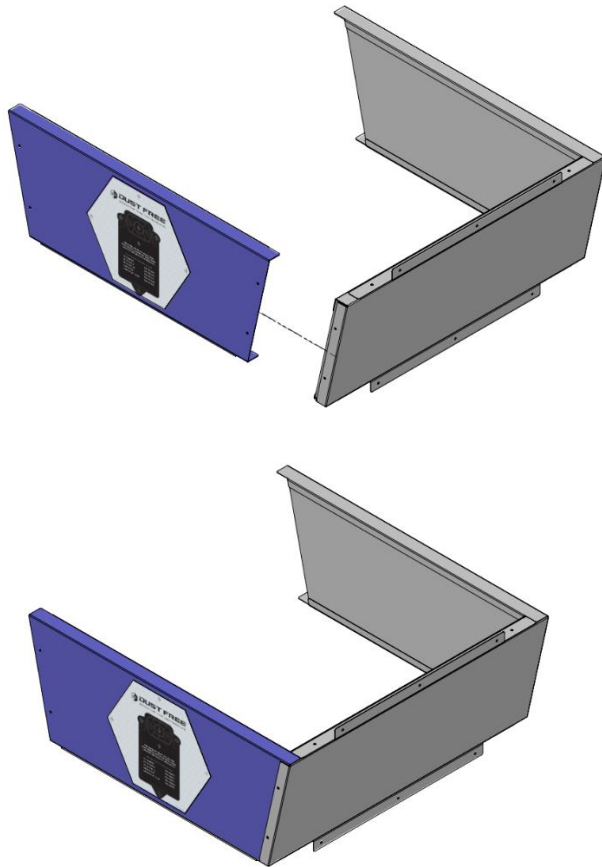

Figure 5: Remaining side and rear panel alignment and assembly.
4. Align and insert the remaining side panel into the rear panel, inside the flange as depicted in **Figure 5**.